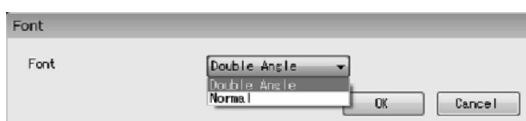

Fig.81
- ③ Click the triangle on the right side of "Font" as shown in Fig. 81, and select the font to set from the drop-down list.